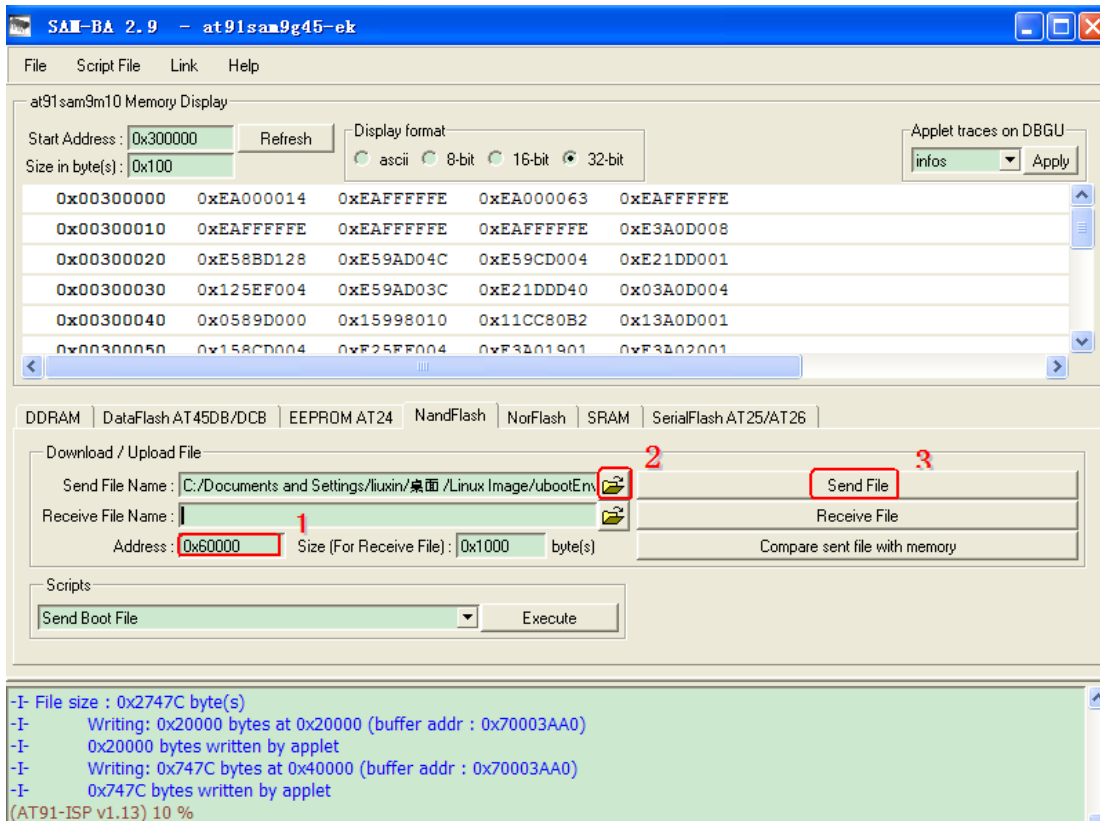

Figure 5-9
(6) Download u-boot.bin file to 0x60000. Refer to figure 5-9: